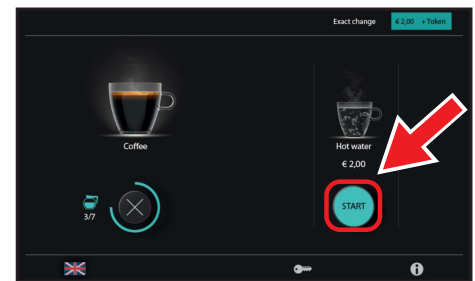

Figure 21.
5. While dispensing coffee and instant drinks, you can select hot water or cold water (optional) by pressing the lower right-hand button (Figure 21). The hot or cold water consumption comes from the right dispenser. You can cancel the dispensing of hot or cold water drinks at any time by pressing Stop.
16. When dispensing coffee and instant drinks, you can choose hot water or cold water (optional) by pressing the button on the bottom right (see Figure 21). The hot or cold water consumption comes from the right-hand dispenser. You can cancel the dispensing of hot or cold water drinks at any time by pressing Stop.